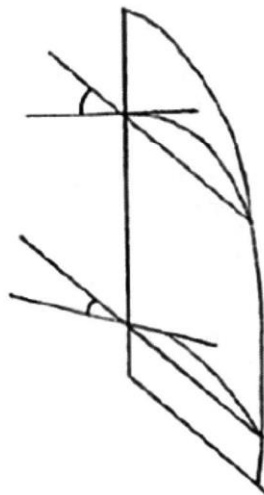
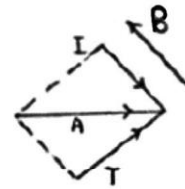

Fig 5
Fig 6
c) **Sail Twist:** The angle of attack of the sail is not constant through its height to the peak but widens slightly as the sail twists towards the peak, (fig 5). This is quite natural and advantageous to a limited degree as the angle of the apparent wind also widens slightly towards the mast head due to the slightly increased velocity of the true wind away from the frictional effects at water level, (fig 6). However, the effect of sail twist needs to be controlled, particularly in stronger winds, and one use of the kicking strap, in addition to controlling mast bend and sail depth, is to reduce sail twist by holding the boom end down and tightening the leech of the sail.